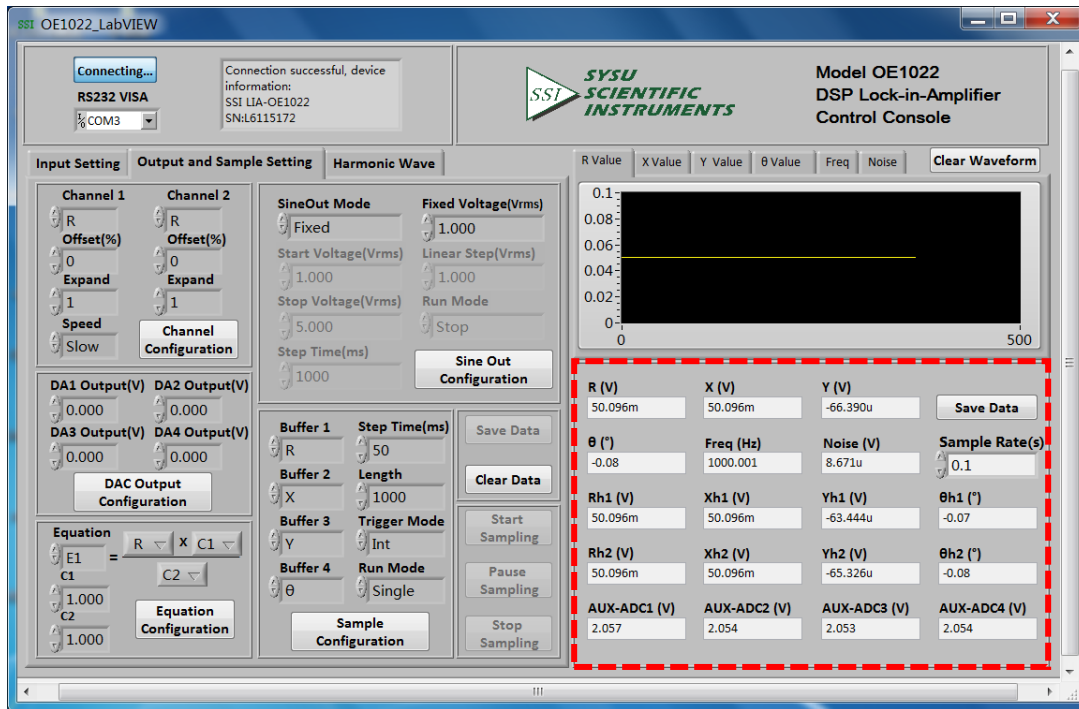

Fig.72 The Configuration Area of saving data
2. When the software is executing, click the button **Save Data** in red box in Fig.72. After clicking this button and displaying **Saving...**, the software is saving the current collected data.